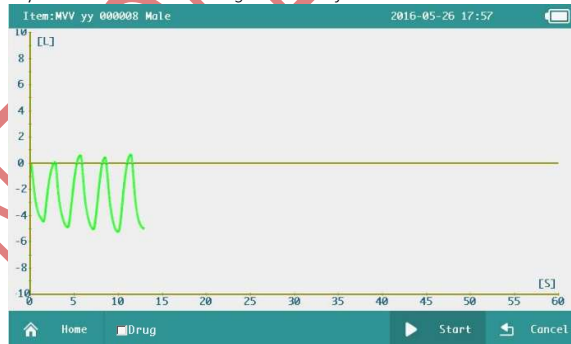

Figure 6-7
(1) On the *quick test interface*, click the  button to enter the MVV testing interface, then the user can choose whether to tick the **【Drug】** button according to the condition of the drug being consumed.
(2) Place the *mouthpiece* on the patient's mouth, inhale and exhale rapidly and constantly for 12 seconds, the system will draw the test result *waveform* in real-time, as shown in Figure 6-7. Remove the *mouthpiece*, the system will automatically switch to the *case management interface*.